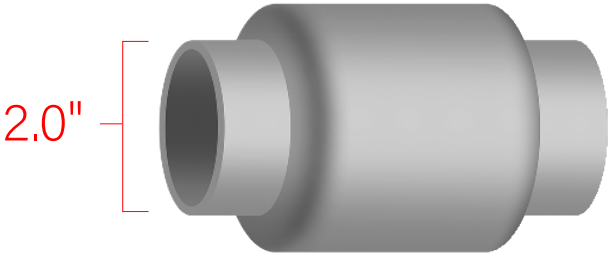
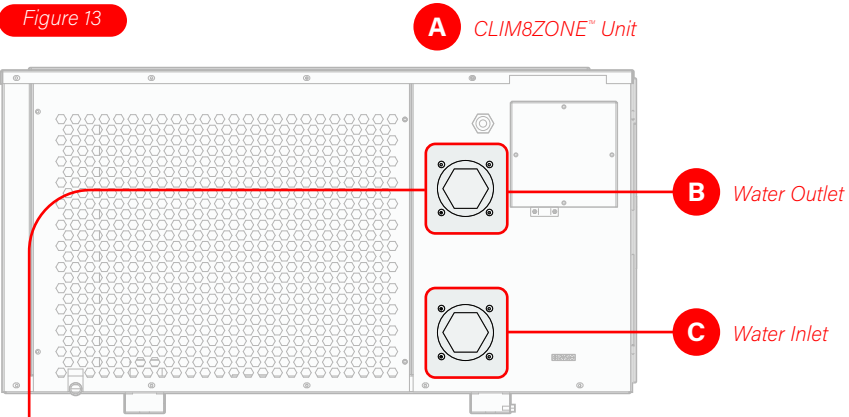

Figure 10
Figure 12
**3** Tighten Pump Union 1 with the wrench (figure 12, G) as shown here. Wear gloves to protect your hands from the edges of the wrench.
Before beginning step 4, make sure Gasket 2 (figure 12, F) is still properly seated as shown here.
**4** Install Pump Union 2 (figure 12, C) onto the end of Pump Union 1 as shown here.
**5** Repeat steps 1 - 4 for the water inlet (figure 12, C).
**2** Before starting this step, make sure Gasket 1 (figure 12, E) and Gasket 2 (figure 12, F) are mounted properly on Pump Union 1 (figure 10, B). Install Pump Union 1 into the water outlet as shown here.